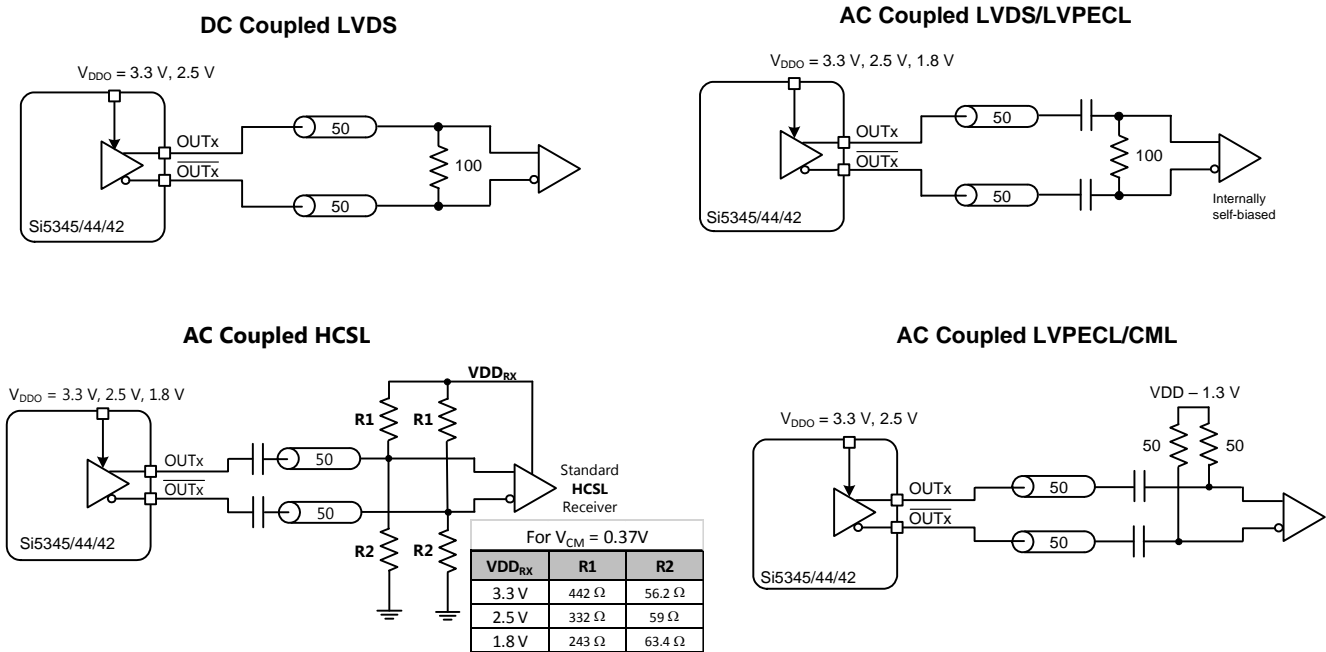

Figure 17. Supported Differential Output Terminations
The differential output drivers support both ac and dc-coupled terminations as shown in Figure 17.
- Differential Normal Swing Mode**—This is the usual selection for differential outputs and should be used, unless there is a specific reason to do otherwise. When an output driver is configured in normal swing mode, its output swing is selectable as one of 7 settings ranging from 200 mVpp_{se} to 800 mVpp_{se} in increments of 100 mV. Table 18 lists the registers that control the output voltage swing. The output impedance in the Normal Swing Mode is 100 Ω differential. Any of the terminations shown in Figure 17 are supported in this mode.
- Differential High Swing Mode**—When an output driver is configured in high swing mode, its output swing is configurable as one of 7 settings ranging from 400 mVpp_{se} to 1600 mVpp_{se} in increments of 200 mV. The output driver is in high impedance mode and supports standard 50 Ω PCB traces. Any of the terminations shown in Figure 17 are supported. The use of High Swing mode will result in larger pk-pk output swings that draw less power. The trade off will be slower rise and fall times.